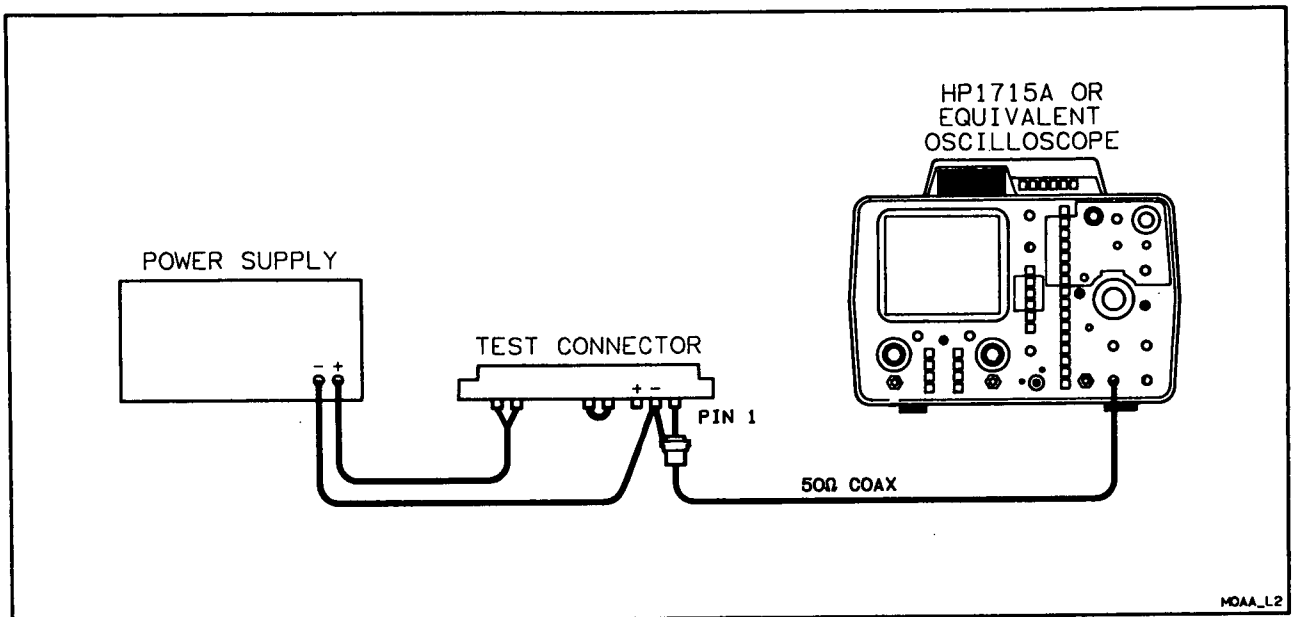

Figure 8-11. Output Amplitude Adjustment Setup
- f. Connect the power supply to pins 2 (–) and 3 (+) of the 15 pin test connector, as shown in *Figure 8-11*. (See instructions in paragraph 8-386, Special Test Connector, to fabricate the test connector.)